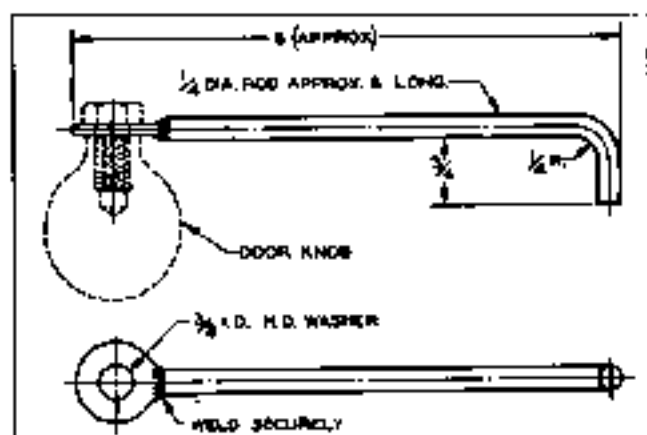

Fig. 4A-15 Differential Cranking Tool
3. Insert crank (Fig. 4A-15) in companion flange and, pinion head and inner race of rear bearing. The shim pack is used in the differential to compensate for manufacturing tolerances. Increasing shim pack thick-
NOTE: The crank in Fig. 4A-15 may be easily made as follows: a. Weld a 3/8" heavy duty flat washer to a piece of 1/4" diameter rod, approximately 6" long, and form as shown. b. Tap door knob for 3/8" bolt and attach knob to crank as shown. Leave bolt loose enough to permit knob to turn.